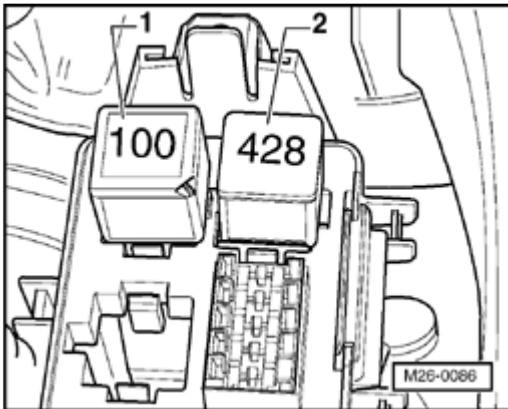

Fig. 303: Position Of Relays In Protective Housing (On Left In Engine Compartment)
- Relay assignment in protective housing. See **Fig. 303** .
- Checking quantity injected and for leaks. Refer to **Fig. 303**